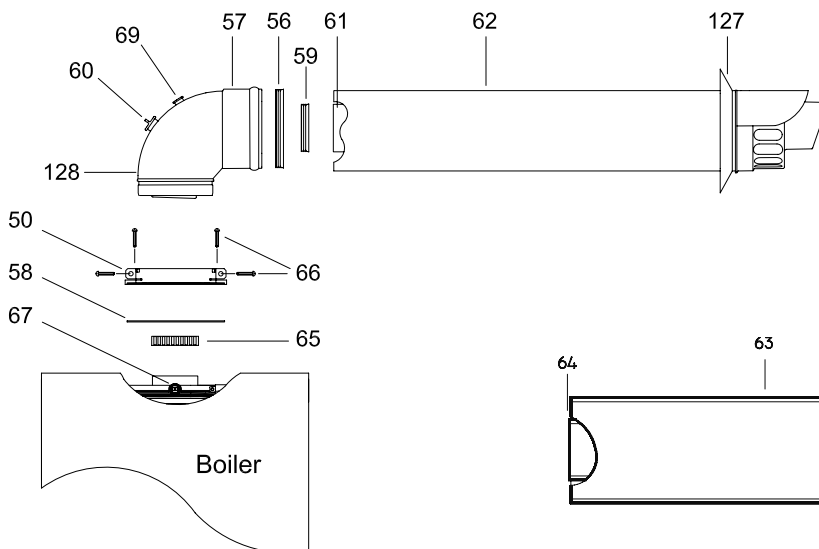
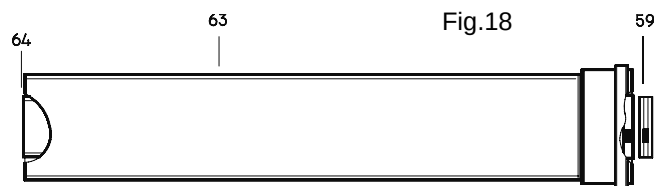

Fig.17
Fig.18
- 5.5.6** Working above the boiler pull the flue exhaust duct towards the boiler in order to engage tube (Fig. 17 item 61) into its header. Position flue into elbow header and push so as to locate inner and outer flue correctly ensuring good seal is made with "O" rings.
- 5.5.8** Extensions kits are available to order for flue extension of up to 7 metres total length (Fig.18).
**5.6.9** Each extension length extends the pipe by approximately 1000 mm long up to a maximum of seven extensions. Pipeline length can be established using the instructions in section 5.5 for rear flue outlets and section 5.6 for side flue outlets. Extensions must be installed with the widened end of the air intake pipe and the tapered end of the flue pipe aimed towards the exhaust terminal. Extensions must be joined together with the standard terminal pipe, and inserted in each other as far as they can go. If an extension must be shortened, this must be done from the straight end, and not from the widened or tapered end. To measure the pipeline properly all components must be assembled and total length measured before cutting. The straight end of the extension connects to the boiler. The flue output and air intake pipes fits into the boiler header until it stops (Fig.17 - Fig.18).
- Insert plastic expansion plugs (Fig. 18).
This part of the installation manual covers the installation and fixing instructions of the twin flue eccentric flue duct systems only. When ordering twin flue it must be stated for WH 100/130 range. Typical installation procedures are illustrated by drawings. Remove the front panel of the case (sect.8.1). Unscrew the screw (Fig.17 item 66) on the flue adapter.
Make sure that the Flue manifold rubber seal is located into the flue manifold, and lubricate the internal part of the seal before assembly. Locate the header gasket on the twin flue header and push into the flue adaptor (Fig.17 item 56) making sure that the inner plastic exhaust locates firmly in the outlet spigot of the flue manifold, and screw the securing screw that secures the twin flue header on the boiler.